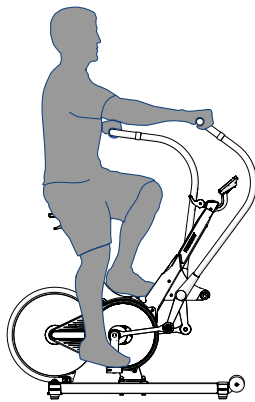

Figure 15. Total Body Training Exercise Position
**Total Body Training** (Figure 15) is an all-around exercise suited for users of any fitness level that provides a challenging workout. The upper and lower body are engaged for cardiovascular and pulmonary endurance, as well as for strength and power conditioning.